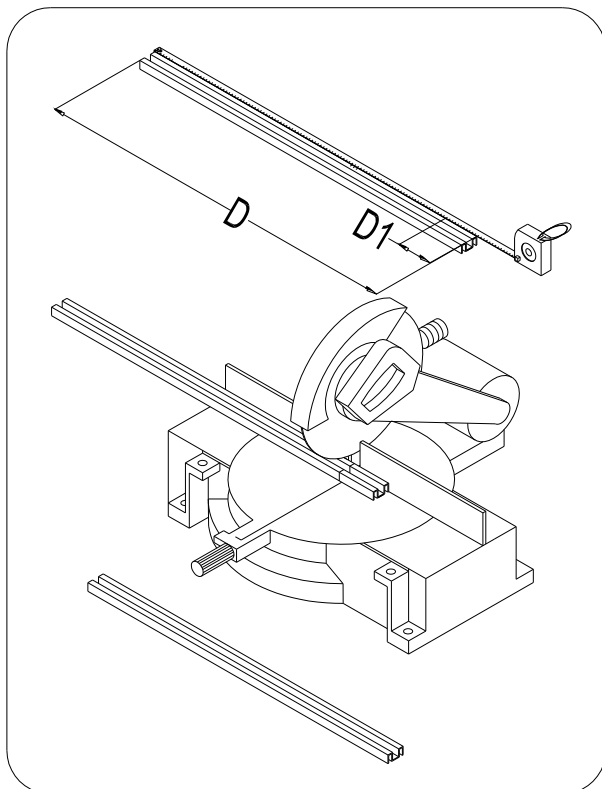

Fig. 3
3. Measure the length of the **Threshold (15)** which is **D**. If $D=W$, you don't need to cut it. But if $W < D$, you have to cut the **Threshold** to size. The length to cut off will be **D1**: $D1 = (D - W)$. See fig. 3 for details.